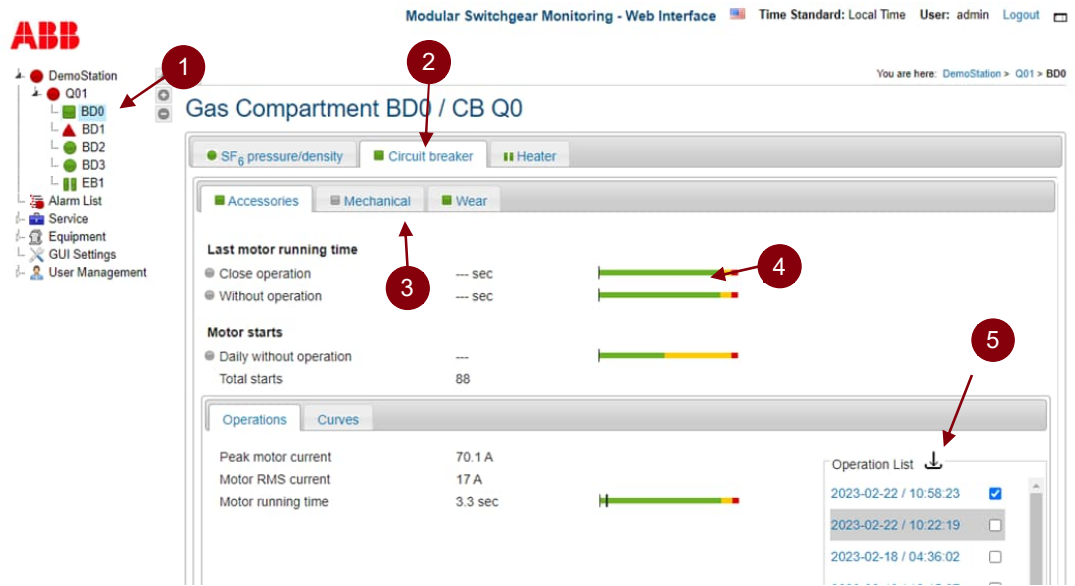

Figure 4.35: Compartment overview for circuit breaker monitoring
The MSM Web Interface with enabled circuit breaker monitoring is shown in Figure 4.35. In the tree navigation (1) those gas compartments with circuit breaker are shown by a rectangle icon instead of a circular icon. Clicking on one of these gas compartments with circuit breaker, two tabs become visible on the main screen: the gas pressure/density and circuit breaker (2). The circuit breaker tab has three sub-tabs, Accessories, Mechanical, and Wear respectively (3). Each parameter in sub-tabs has a color bar to indicate the admissible limit, and the warning & alarm thresholds (4). For accessories and mechanical tab, operations selected can be downloaded by button(5). The detailed visualization in each sub-tab is shown in Figure 4.36, Figure 4.37 and Figure 4.38:
- (1) **Accessories tab:** The accessories tab contains the monitoring parameters for the operating mechanism. The last motor running time (1), includes the time durations for each phase, after close operation and without operation respectively. The motor starts (2) include the counter for motor starts per day without operation of the circuit breaker, and the total number for motor starts under any circumstances. Further down, the parameters related to individual operations are shown (3), i.e., peak motor current, and motor running time. Clicking on the individual entries in the operations list shows the record for historic operations. Meanwhile, the motor current profiles in historical operations are shown in curve tab (4). The measured curve data can be downloaded using hyperlink (5). Operation curves can be downloaded through button (5)
- (2) **Mechanical tab:** The mechanical tab includes the monitoring parameters of circuit breaker for each phase (1), for example opening time and closing time, open velocity, and close velocity. Clicking on the curve tab (2), the travel curve and coil current profile could be shown, with the operation list for historic operations. Information of coil current parameter will be displayed in (3). The measured curve data can be downloaded using hyperlink (4).
- (3) **Wear tab:** The wear tab shows contact wear (1), total close operation (2), and total fault operation (3), after each operation of the circuit breaker, this parameter will be updated. The phase current for compartment (4) would be recorded. Clicking on the individual entries in the operations list can access the phase current profile during each operation. The measured curve data can be downloaded using hyperlink (5).